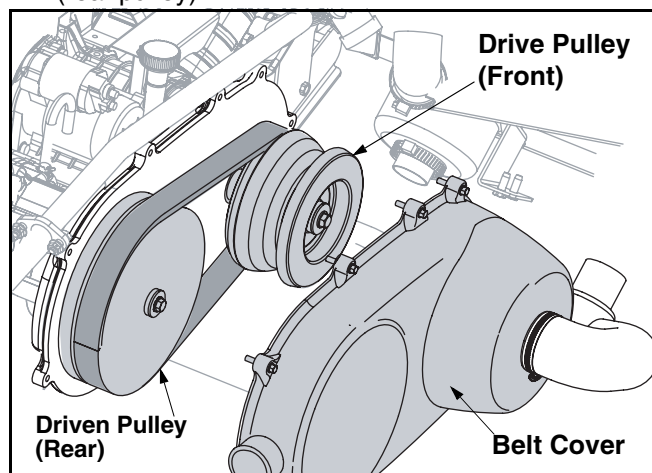

Figure 18
- Pivot the belt cover out and down, and rotate and inspect the belt for wear or damage. See Figure 18.
- Route belt from driven pulley (rear pulley). See Figure 18.